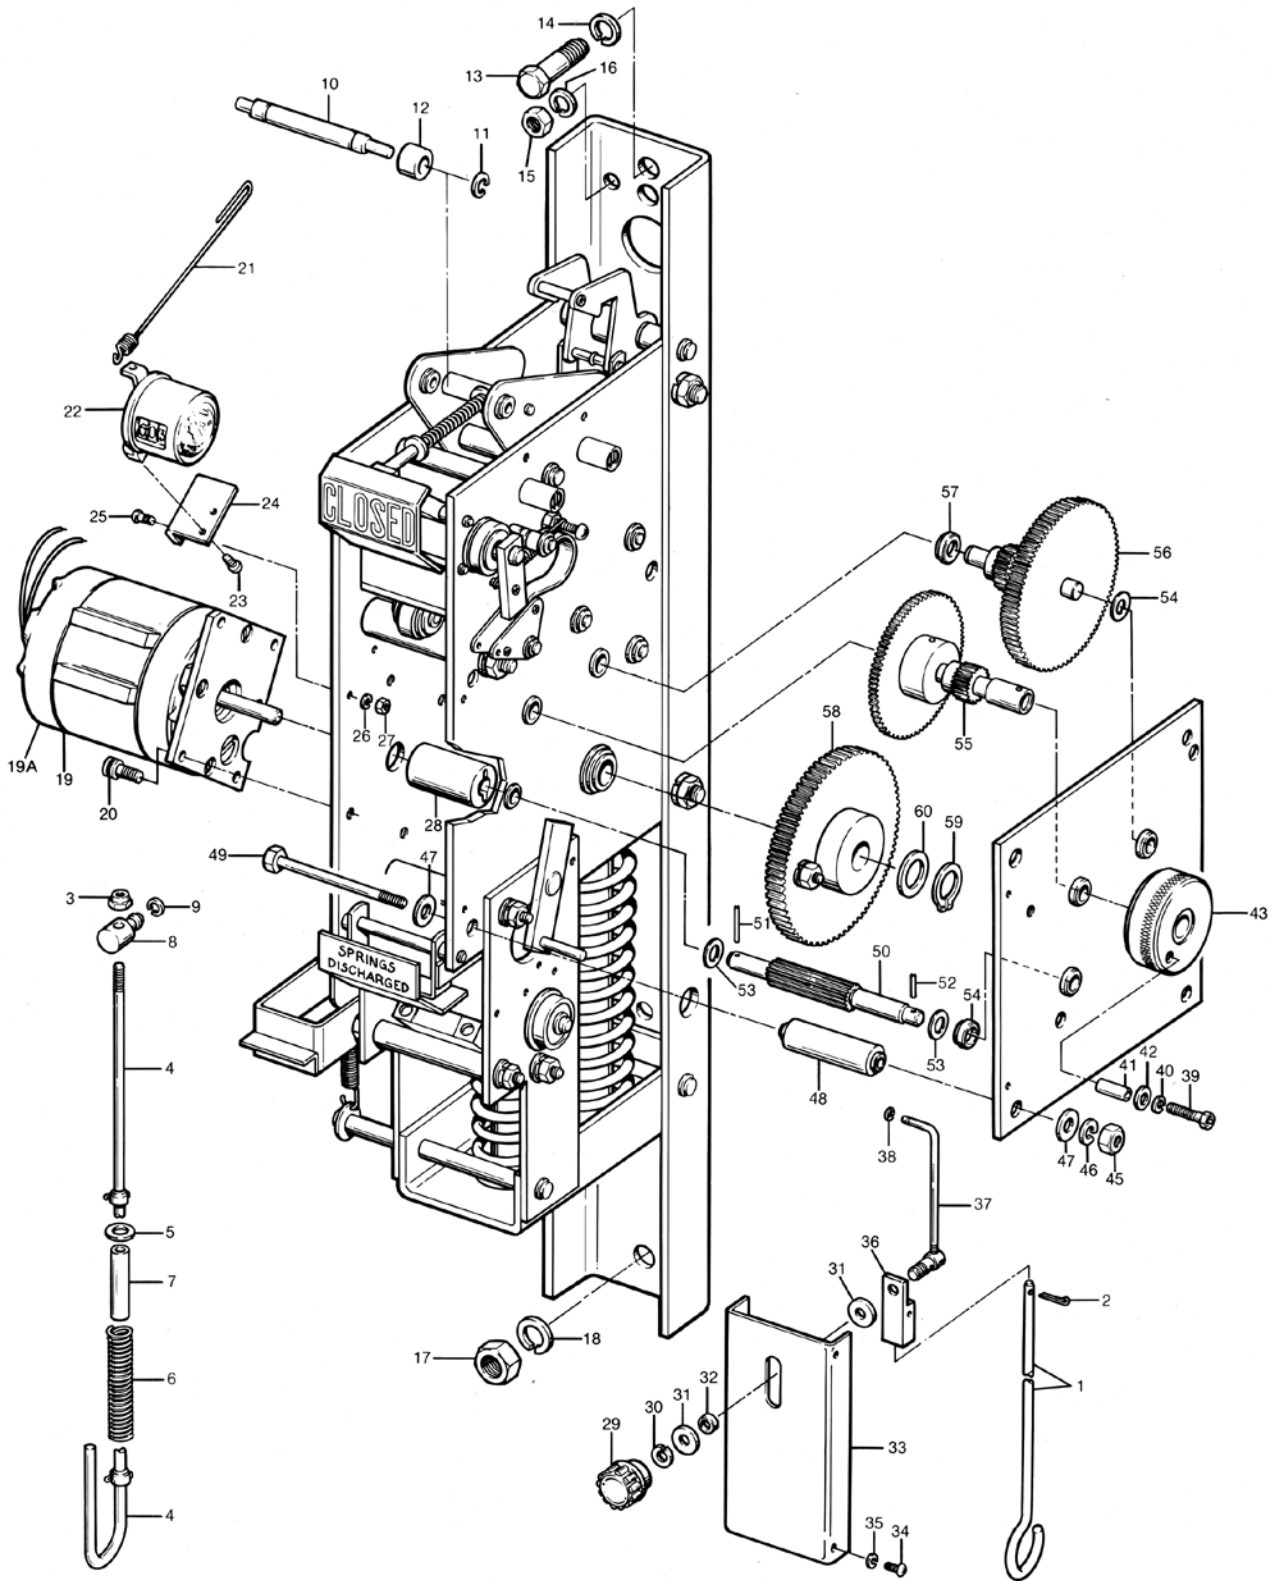

Figure 32. Operating mechanism mechanical parts group
**Operating mechanism electrical parts group (Figure 32)**